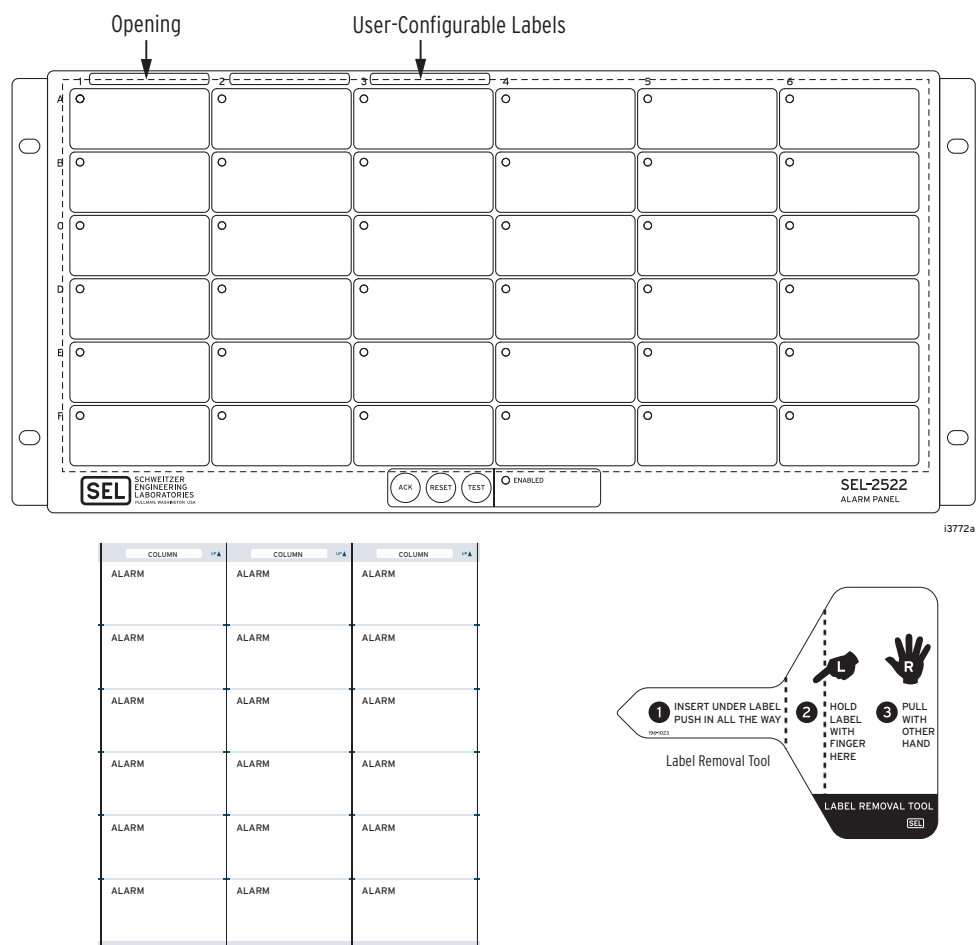

Figure 11 Blank Configurable Label Set and Label Removal Tool
The blank slide-in label set, shown in *Figure 11*, is included with the SEL-2522. When installing the configurable labels, ensure that the labels installed in the front-panel pockets at the factory are removed before installing the new labels. The aluminum chassis should be viewable through the front-panel windows when no labels are installed in the unit.
Use the Label Removal Tool (shown in *Figure 11*) and the following procedure to remove configurable labels from the front-panel pocket.
- Step 2. Slide the tip of the tool under the label at the label pocket opening (see *Figure 11* for opening locations).